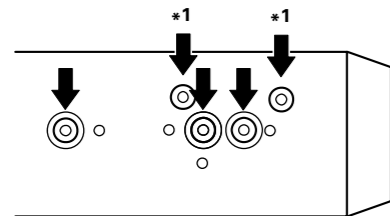
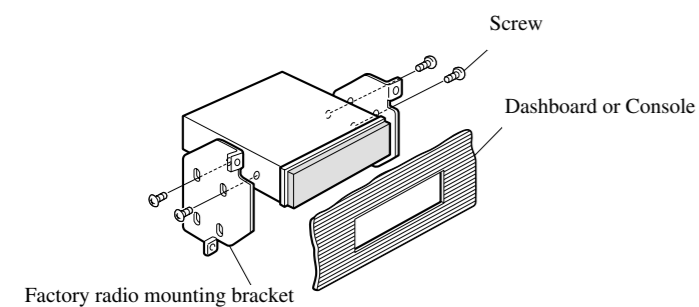

Fig. 12
Fig. 13
2. Fastening the unit to the factory radio mounting bracket. (Fig. 12) (Fig. 13)